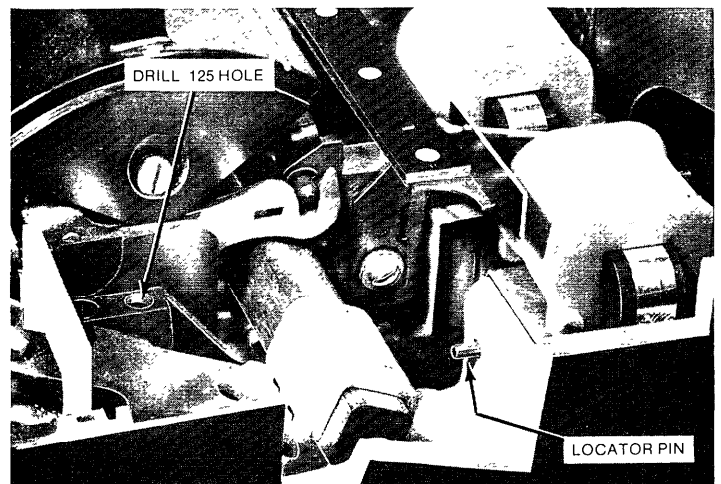

Figure 3
3. Using a .125 diameter bit drill a thru hole as indicated. (Figure 3) This hole should be drilled from the back of the breaker using the spotting hole closest to the trip unit for locating. Remove all chips and debris from circuit breaker interior.